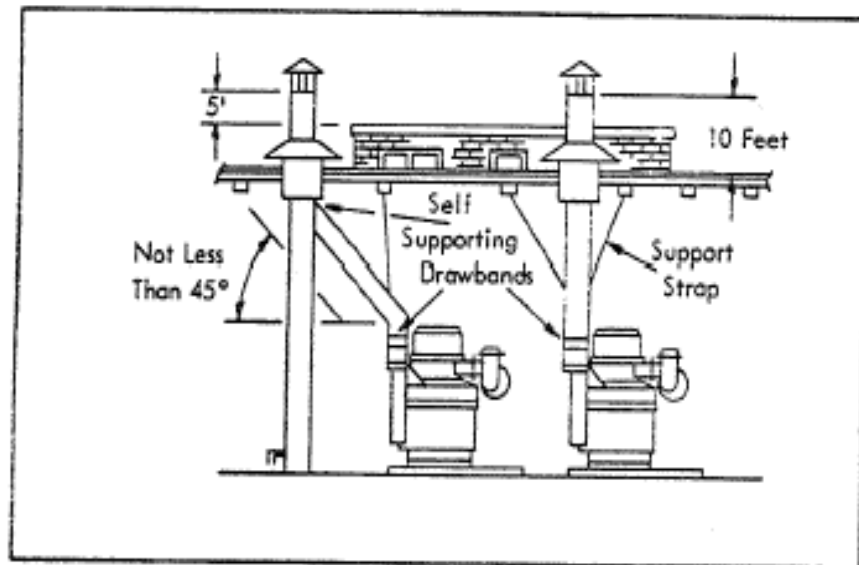

Figure 2, Recommended Stack Installation
7.2 A vertical stack should extend through the roof and have provisions for drainage. The boiler should not be used to support the weight of the stack. (See Figure 2)
7.8 The stack should be designed with the required bracing, or hangers to be self-supporting. (See Figure 2) A section of the stack should be removable to permit inspection for corrosion and soot buildup. An inspection door or panel may be inserted if removal of a section of the stack will be difficult. The minimum recommended material thickness for stacks and breeching is 14 gauge.